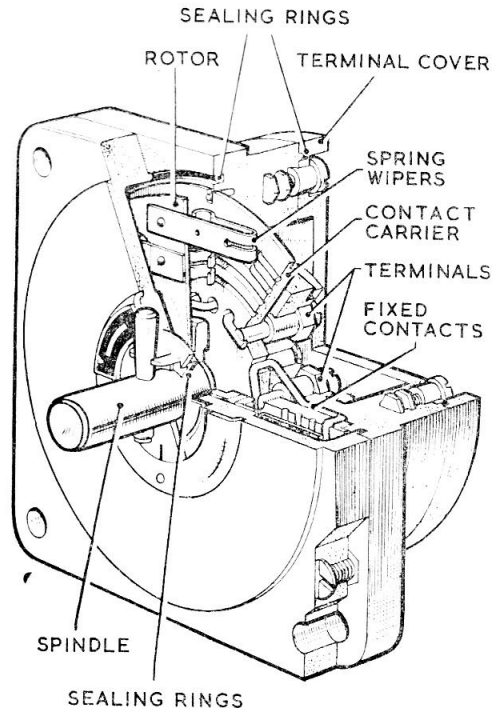

Fig. 1. Sectional view of typical switch
2. A sectional view of a typical switch is given in fig. 1. The body of the switch houses a circular contact carrier which accommodates fixed contacts. The angular position and number of contacts are pre-determined according to the requirements of the system served by the unit. These contacts are connected to a maximum of ten terminals.